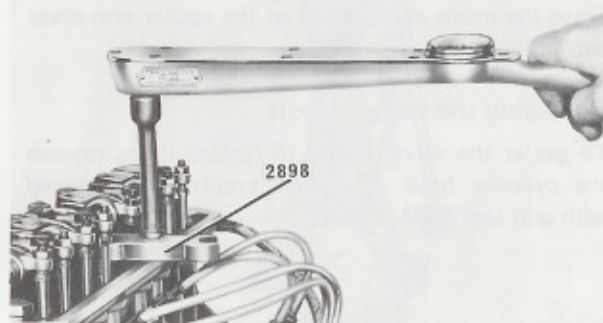

Fig. 21-18. Check-tightening cylinder head bolts
20. Check-tighten the cylinder head bolts, after the engine has cooled, in correct sequence to 90 Nm (9 kpm = 65 lbftf). Use spanner 2898 for this purpose, see Fig. 21-18.